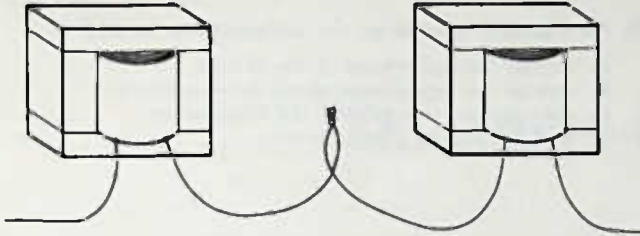

Fig. 3-13. Drawing for Question 10.
10. Two chokes are connected as shown in Fig. 3-13. The two have identical characteristics. Because of the closed core around them, there is little or no mutual inductance (coupling) between the two. The total inductance of the two is